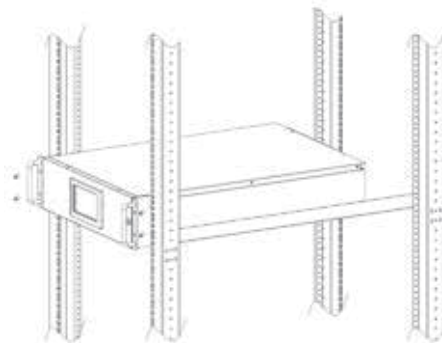

Fig.3-5 Installing UPS
2. Place the UPS and battery cabinet onto the guide rail in the rack, push it completely into the rack along the guide rail (it is prohibited to move the UPS through the brackets). Fix the units to the service rack, as shown in Fig.3-5.